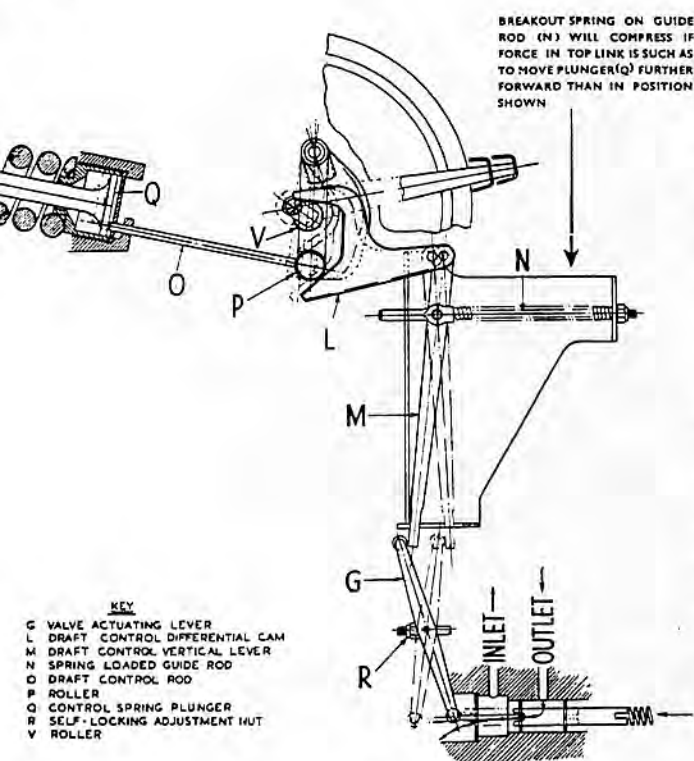

FIG. 20 DRAFT CONTROL 'OVERLOAD RELEASE'
OVERLOAD RELEASE (Fig. 20)
The foregoing characteristics of the overload release system are due to the respective positions assumed by cam (L) and roller (P), (see Fig. 20). With an implement operating under draft control the position of roller (P) is governed by the degree of control spring compression in turn dependent upon the amount of draft. Independent of the location of roller (P), by a combination of the position of the draft control lever and the natural bias of the cam (L) rearwards, the necessary degree of forward travel of roller (P) to move the valve from neutral into overload release never varies. In practice, cam (L) functions as a link of variable length that automatically adjusts itself to alterations in the distance between roller (P) and the top of lever (M) when the valve is in neutral and thus establishes a constant value for the amount of control spring deflection to achieve overload release.